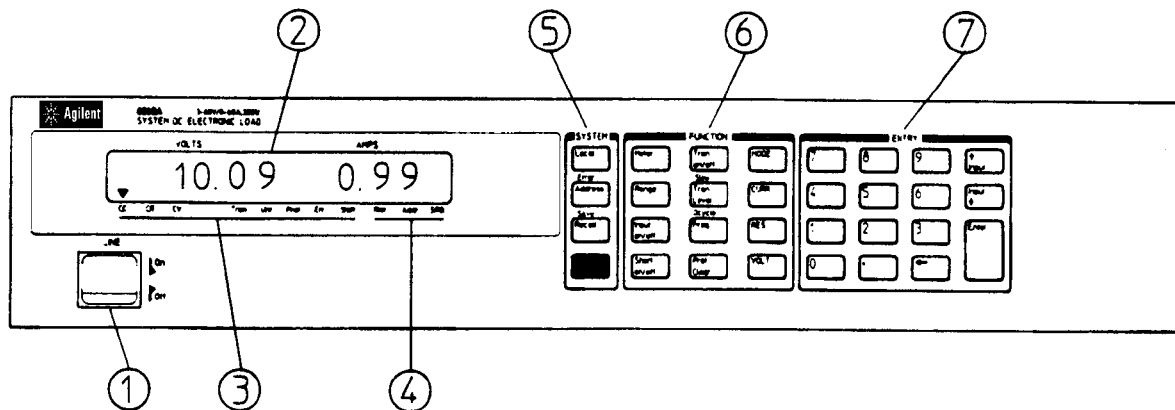

Figure 4-1. Front Panel
The Electronic Load can be programmed locally using the controls and indicators on the front panel. As shown in Figure 4-1, the front panel’s controls and indicators include a 12-segment LCD display and a keypad having three groups of keys (SYSTEM, FUNCTION, and ENTRY). Table 4-1 gives a brief description of each control and indicator.
| <p>3 Electronic Load Status Annunciators</p> | <p>CC-Indicates the Electronic Load is in the constant current (CC) mode. Note that Figure 4-1 shows the Electronic Load is in the CC mode (CC annunciator is on).</p> <p>CR-Indicates the Electronic Load is in the constant resistance (CR) mode.</p> <p>CV-Indicates the Electronic Load is in the constant voltage (CV) mode.</p> <p>Tran-Indicates that transient operation is enabled.</p> <p>Unr-Indicates that the Electronic Load is unregulated (applies only in the CC mode and in the middle and high ranges of the CR mode).</p> <p>Prot-Indicates when any protection features (CC, OV, OP, OT, etc.) are active.</p> <p>Err-Indicates that remote programming error(s) have occurred.</p> <p>Shift-Indicates that the shift key, bottom key (blue) in SYSTEM group, was pressed.</p> |